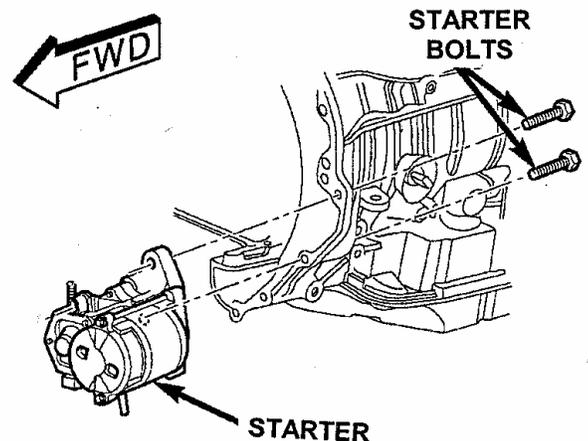

Figure 11
42. Install the starter motor (Figure 11). Tighten the starter motor bolts to 50 ft. lbs. (68 N·m).